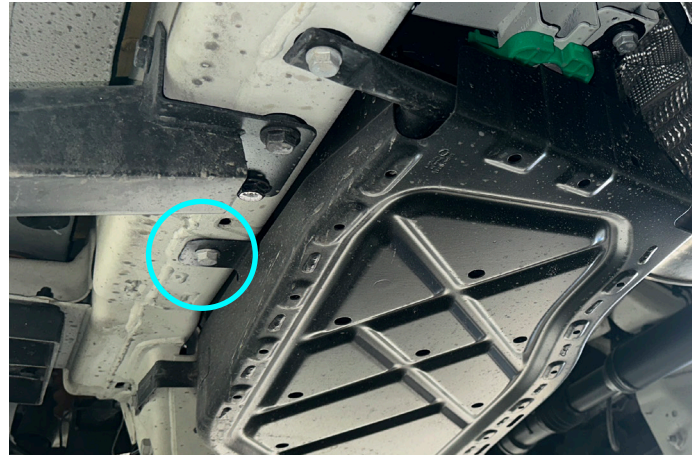

Fig. 6
6. Loosen side factory bolt as shown in fig.6